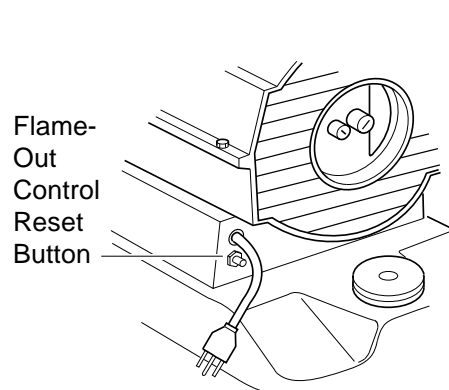

Figure 5 - Flame-Out Control Reset Button, 35/50/55/70,000 BTU/Hr Models
5. Plug extension cord into standard 120 volt/60 hertz, three-hole, grounded outlet. Heater will start when extension cord is plugged into outlet. If not, push in flame-out control reset button (see Figures 5 and 6).